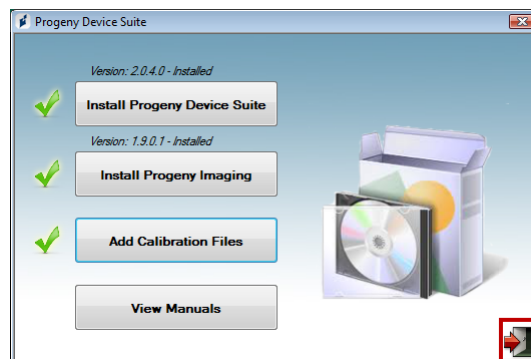

Figure 11: Calibration files are installed
- A green check mark next to the 'Add Calibration Files' button will appear when the calibration files are installed (Figure 11). Exit from the installation by clicking on the 'Exit door' icon as highlighted on Figure 11.